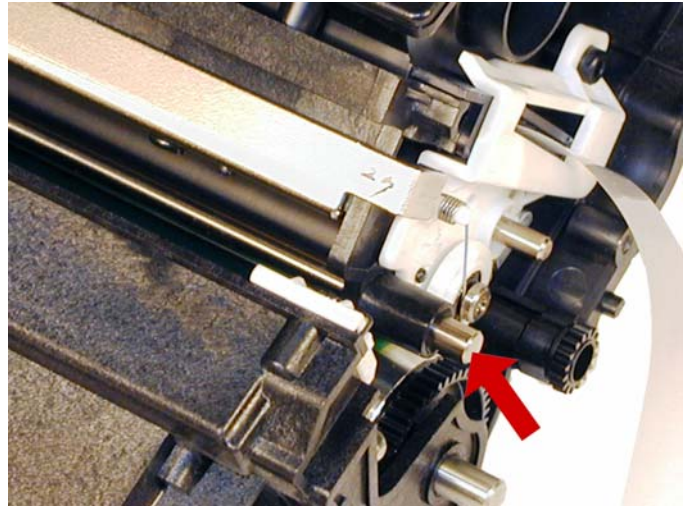

Figure 64
58) Partially install the metal rod on the toner hopper. Seat the hopper into the end cap, and seal the metal rod. Make sure the rod is seated into its hole, and the white drive gear is centered into the 1 inch hole. See **Figure 64**